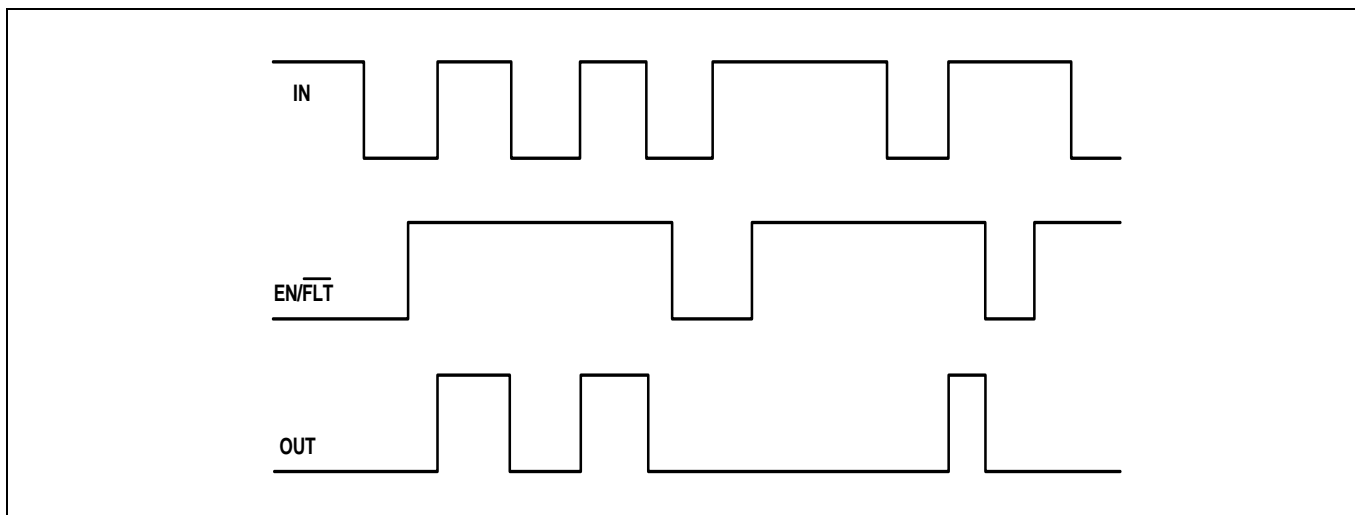

Figure 13 Input/output/enable pins timing diagram
The relationships between the input (IN), output (OUT) and enable ($\overline{\text{EN/FLT}}$) signals of the 1ED44173N01B are illustrated below in Figure 13.